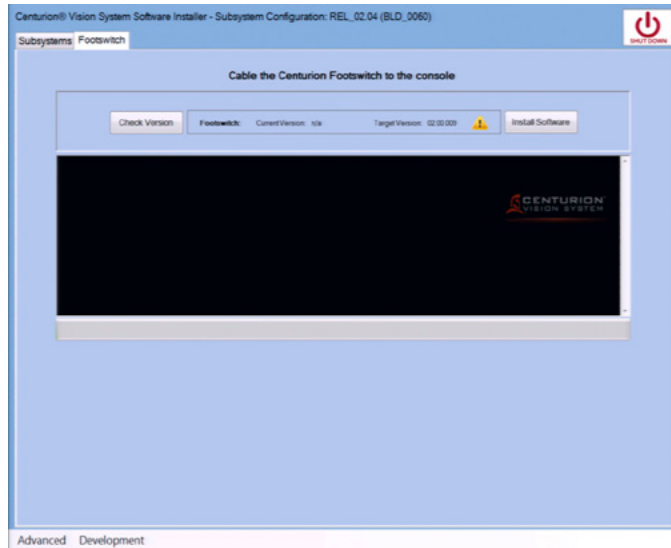

Figure 4-12 Footswitch Software Installer Tab
2.3.7 Select Footswitch tab in the Subsystem Installer then select “Install Software” button (see Figure 4-12).